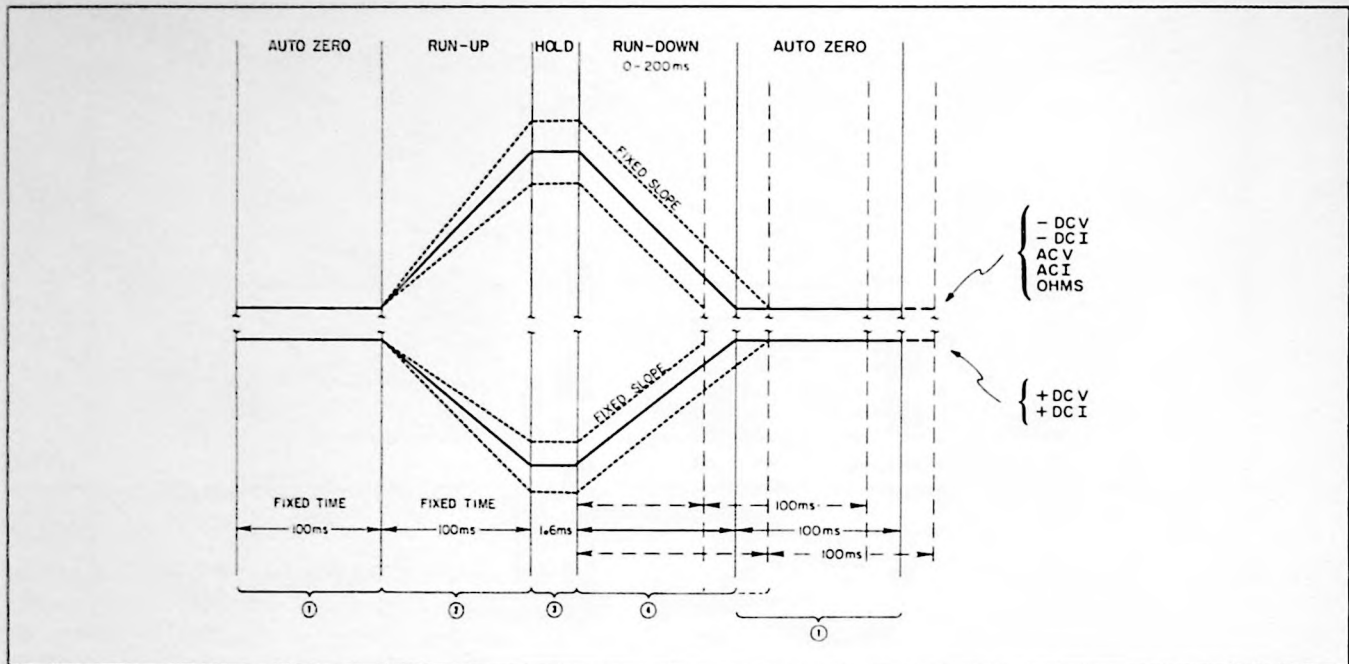

Figure 8-8. Integrator Output.
8-37. **Analog to Digital Converter (A to D Converter).** Refer to Figures 8-8, 8-12, and 8-14. The A to D Converter converts dc voltage into a proportional timer control signal. This circuit consists of an Integrator (U2), a Slope Amplifier (U3), a Comparator (U4), and an Auto Zero Loop.
8-38. There are four basic conditions (①②③④) for a complete measurement cycle as shown in Figure 8-8. These conditions exist for each of the five Multimeter functions.
8-40. At the beginning of run-up ② a dc voltage proportional to the Multimeter input is applied across one of the run-up resistors (depending on the Multimeter function selected). This run-up voltage is integrated across C202. The polarity of the Integrator output is opposite to the run-up voltage polarity. The run-up voltage polarity is dependent upon the Multimeter function, range selected, and the input polarity. Figure 8-8 shows the Integrator output for three different input levels and the polarity for different functions and input polarities.